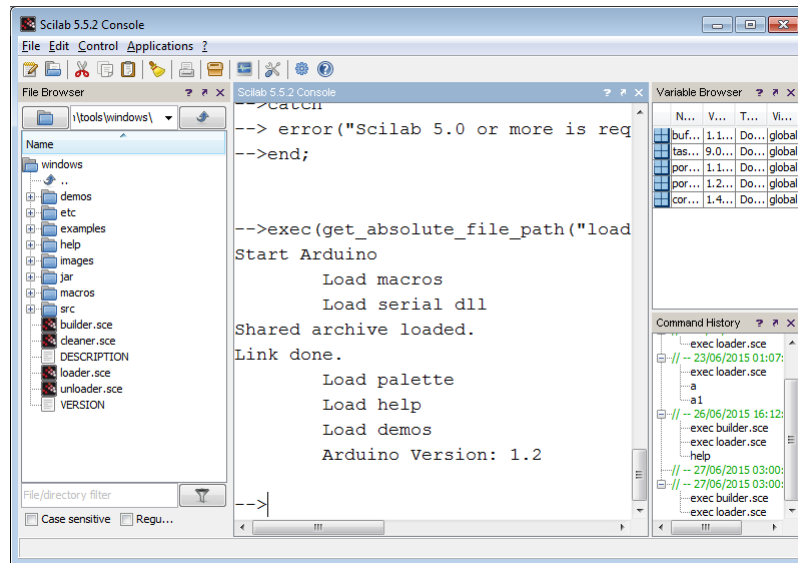

Figure 3.9: Output of loader.sce
- Next, type the command, **exec loader.sce** - this will load the toolbox. This means all the new functions corresponding to the toolbox are loaded in the workspace. It will also make available new Xcos blocks, if any. The output of this command is as shown in Fig. 3.9. If you clear the workspace for any reason, you will have to execute this command once again3.